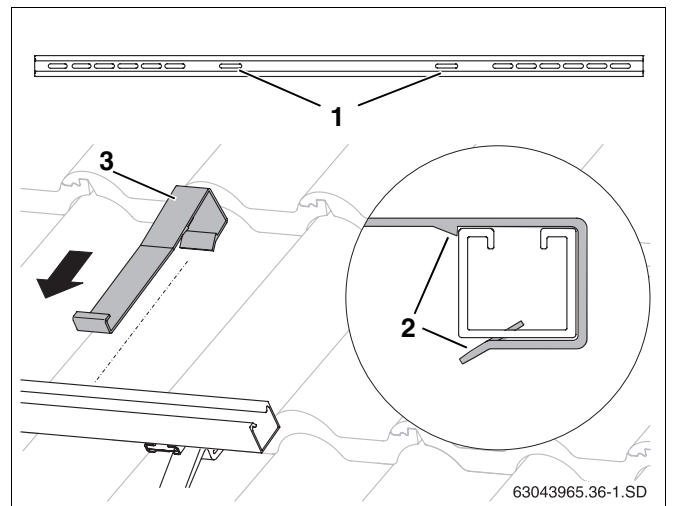

Fig. 34 Attaching anti-slip protection
- ▶ Push each anti-slip protector (Fig. 34, **Item 3**) into the innermost slotted holes (Fig. 34, **Item 1**) over the profile rails until it clicks into place (Fig. 34, **Item 2**).